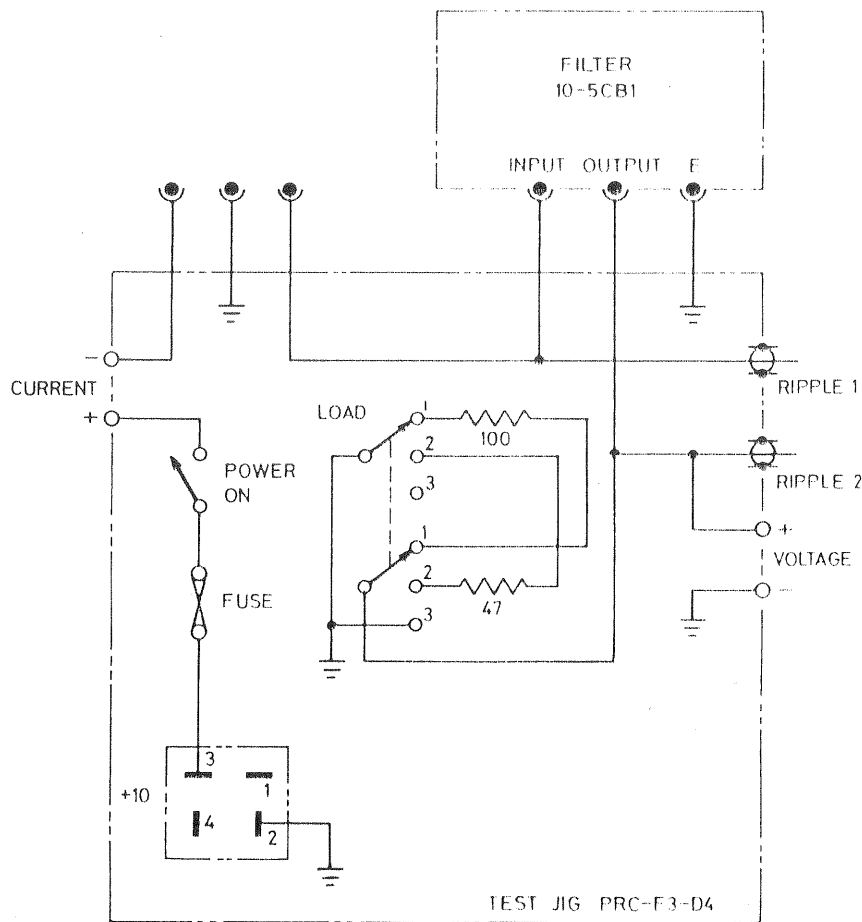

FIG 12 -- TEST JIG PRC-F3-D4 (Filter Board 10-5CB1)
- a. Test Jig PRC-F3-D4 (See Fig 12).